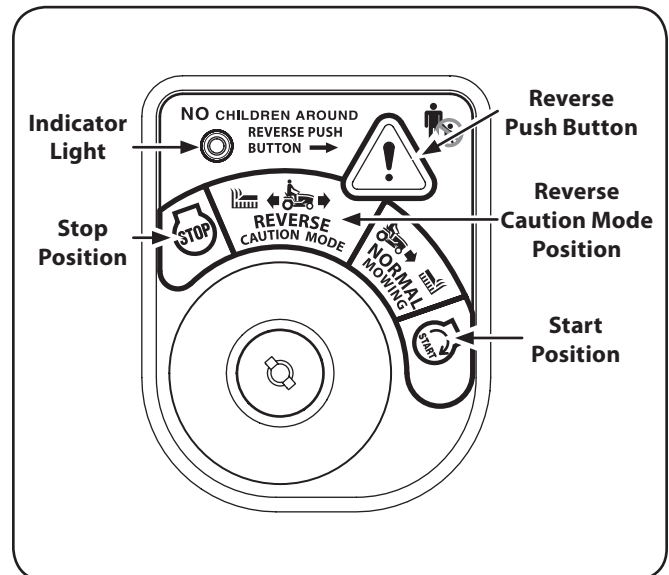

Figure 5-2
2. Turn the key from the NORMAL MOWING (Green) position to the REVERSE CAUTION MODE (Yellow) position of the key switch module. See Figure 5-2.
3. Press the REVERSE PUSH BUTTON (Orange, Triangular Button) at the top, right corner of the key switch module. The red indicator light at the top, left corner of the key switch module will be ON while activated. See Figure 5-2.